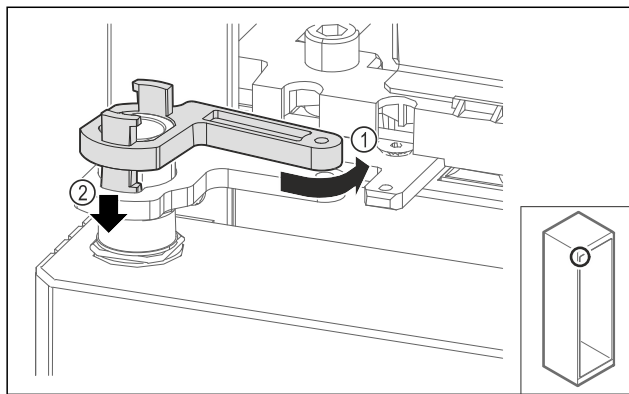

Fig. 63
- Turn the swap bearing block back slightly Fig. 63 (1), push it downward Fig. 63 (2) and lock it in the hinge angle bar.